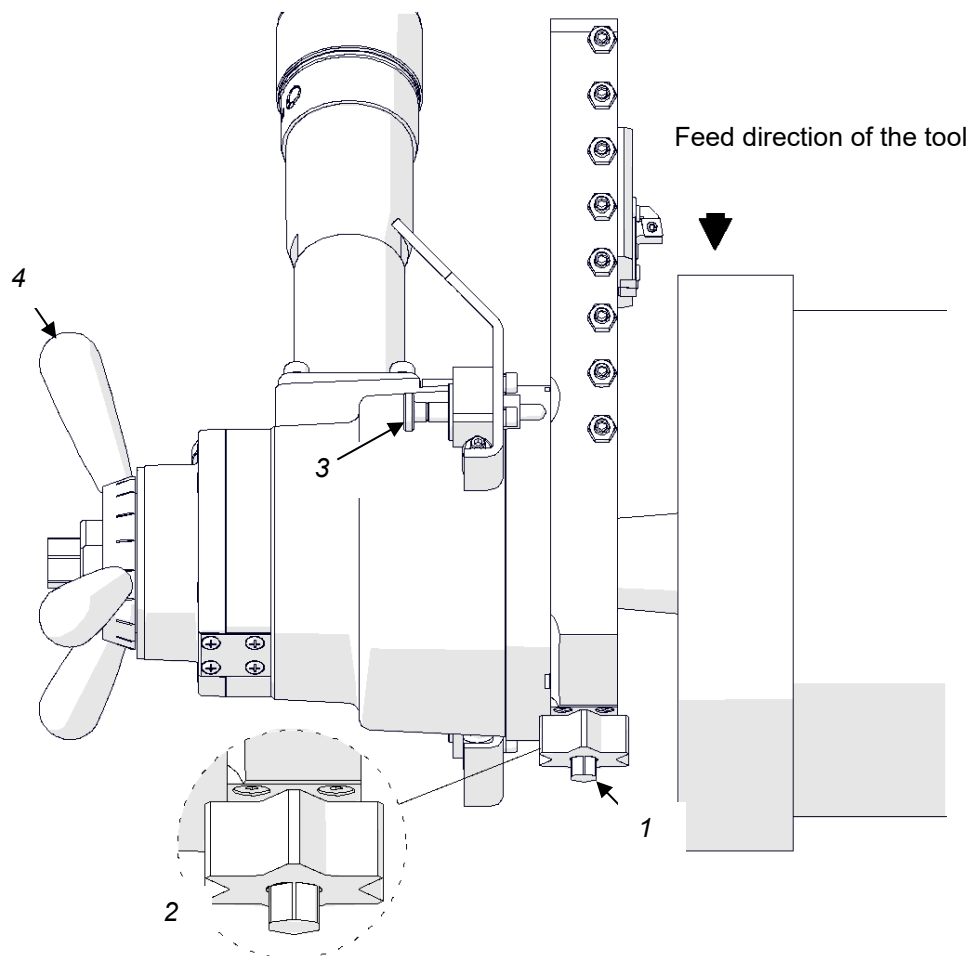

Fig. 10. Proper positioning of the flange facing attachment
After the machine with the attachment is clamped inside the pipe, use the 13 mm combination wrench to rotate the draw nut (1) so that the cutting edge of the tool is moved out of the flange outer diameter. Then, set the sprocket (2) to the position shown in Fig. 10, and push out both pins of the tripper blocks (3) to engage them with the attachment. Rotate the handles (4) to the right to set the machining depth to up to 0.5 mm (0.02") from the pipe end and start the motor.